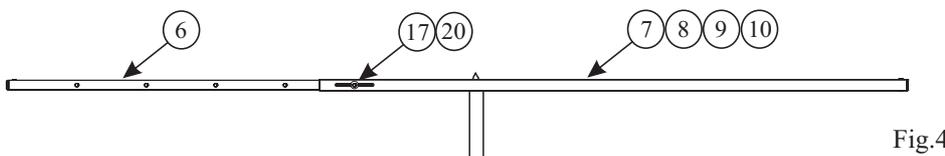

Fig.4
3 **Assemble Sidebars** - Remove the first bolt from the internal adjuster (6), Insert an internal adjuster into each of the Sidebars (7, 8, 9 & 10). Lining up the bolt hole with the slot in the Sidebar fasten with Bolt (17) and Large Washer (20) (as shown in fig 4). Don't worry at this stage about the exact projection of the goal, any adjustment can be made later.